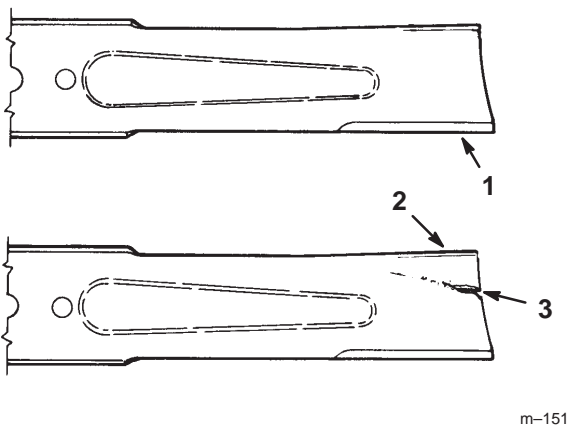

Figure 39
1. Inspect the cutting edges (Fig 39). If the edges are not sharp or have nicks, remove and sharpen the blades. Refer to Sharpening the Blades on page 36.
2. Inspect the blades, especially the curved area (Fig. 39). If you notice any damage, wear, or a slot forming in this area (item 3 in Fig. 39), immediately install a new blade.